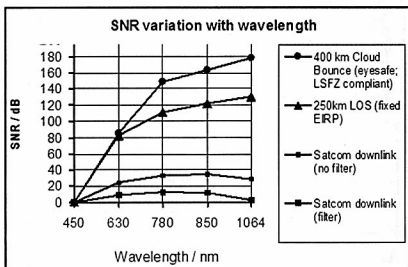

Figure 3: Indicative changes in SNR across the atmospheric window for three optical DX modes at five laser/led wavelengths.
The effect of night sky noise on the best band is illustrated in Table 2 and Figure 3 for a satellite downlink. Two cases are tabled, one for a fixed noise floor, the other for a noise floor set by filtered sky noise. In this latter case the night sky noise (7) in dB has been subtracted to give the SNR variation with wavelength. Actual noise and SNR values depend on factors such as detector area and field of view, bandwidth, and modulation method.
Table 2 shows the weak signal SNR variation across the window for fixed EIRP. With no sky filter, or for a system limited by receiver noise, there is a large increase (35 dB) in SNR in moving from the blue to the optimum wavelength (850 nm). When optically filtered night sky noise is subtracted from the electrical signal the NIR band remains optimum although the variation across the window is now much less. Figure 3 shows both these cases.
Table 2 and Figure 3 show the expected variation in SNR over visible and near infrared wavelengths in clear air. Although these figures should be regarded as indicative only, they clearly show how operation in the visible band is handicapped by high air losses.